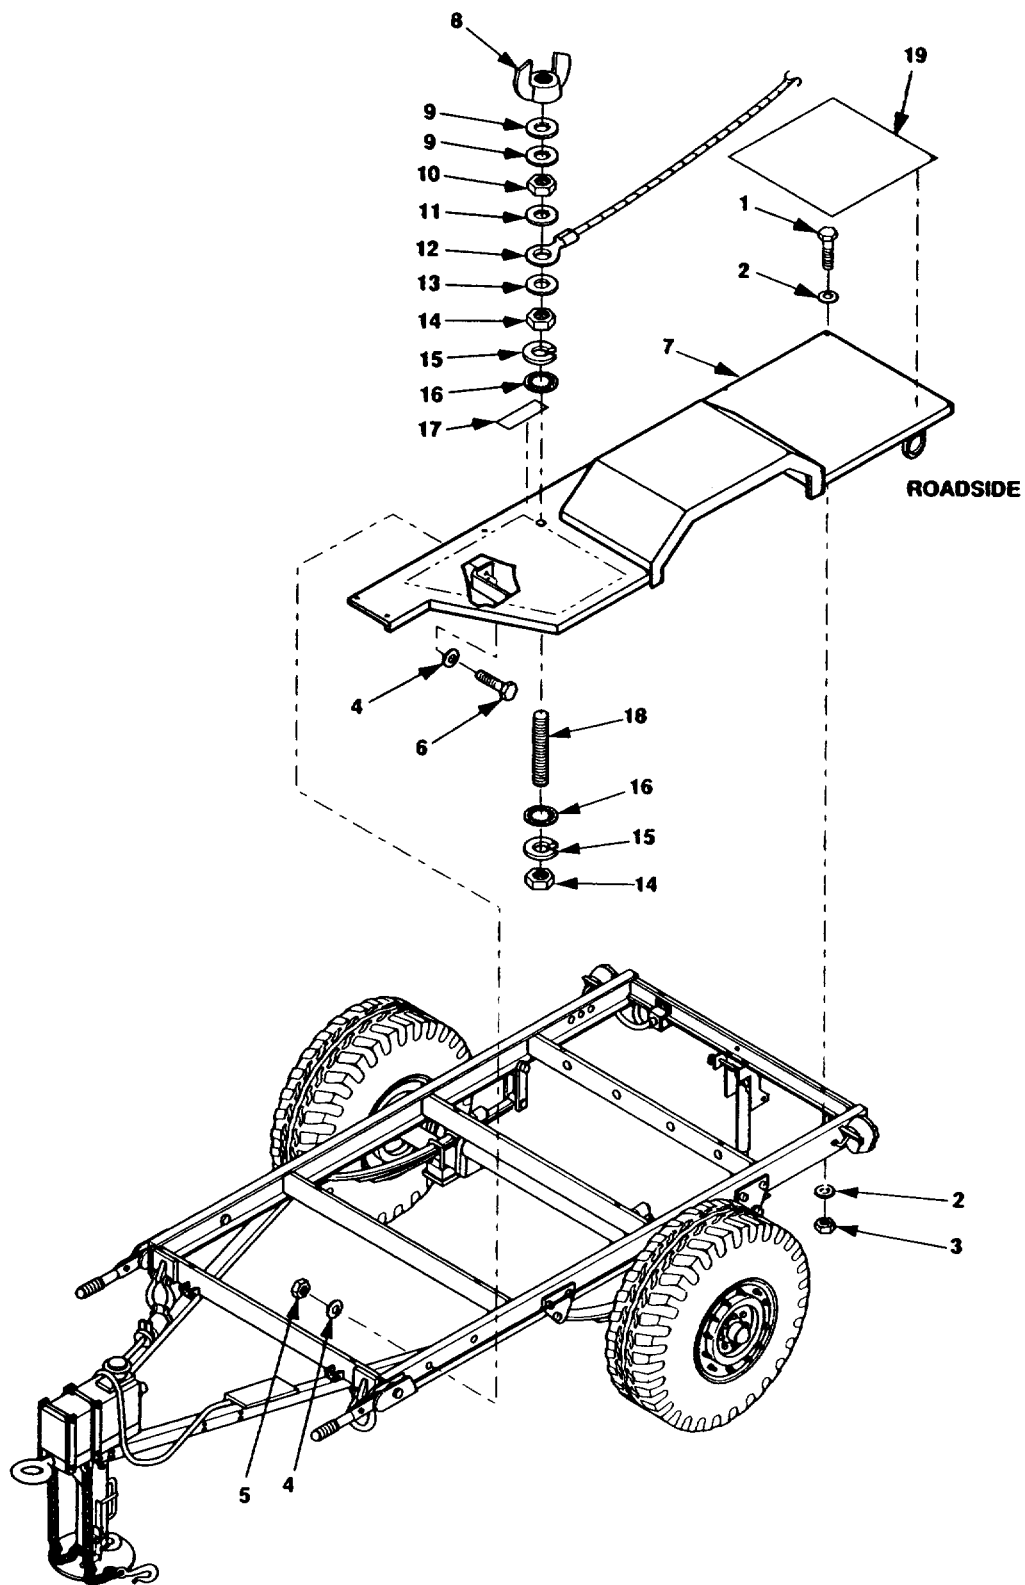

Figure 4-25. PU-797 Fender.
1. Remove wing nut (8, figure 4-25), two flat washers (9), nut (10), flat washer (11), ground cable (12), and flat washer (13).
1. Position fender (7, figure 4-25) on trailer chassis and loosely install five cap screws (1), ten flat washers (2), and five self-locking nuts (3).
2. Install and tighten ten cap screws (6), twenty flat washers (4), and ten self-locking nuts (5).
3. Tighten five self-locking nuts (3).